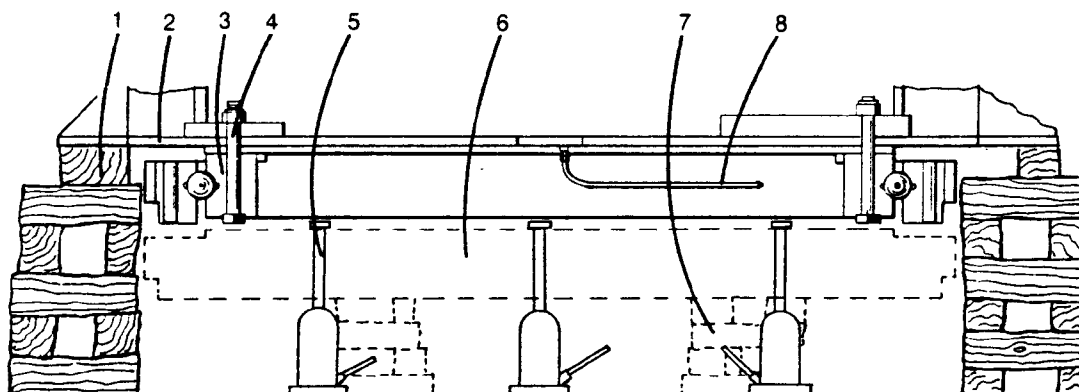

Fig. 3
Use four piles of blocking, one under each corner of the machine. Block on main frame, not the deck plates or supports. Use clean, dry, hardwood blocking. Stack in a criss cross manner as shown in Fig. 3.
- (c) The front drum shaft, and third drum shaft (if so equipped) must be removed for access to the nuts on capscrews (4 in Fig. 3) which hold bearing to upper. Refer to service manual for removal procedure.
- (e) Disconnect grease lines (8) from bearing.
- (g) Lower bearing, slowly onto blocking (7).